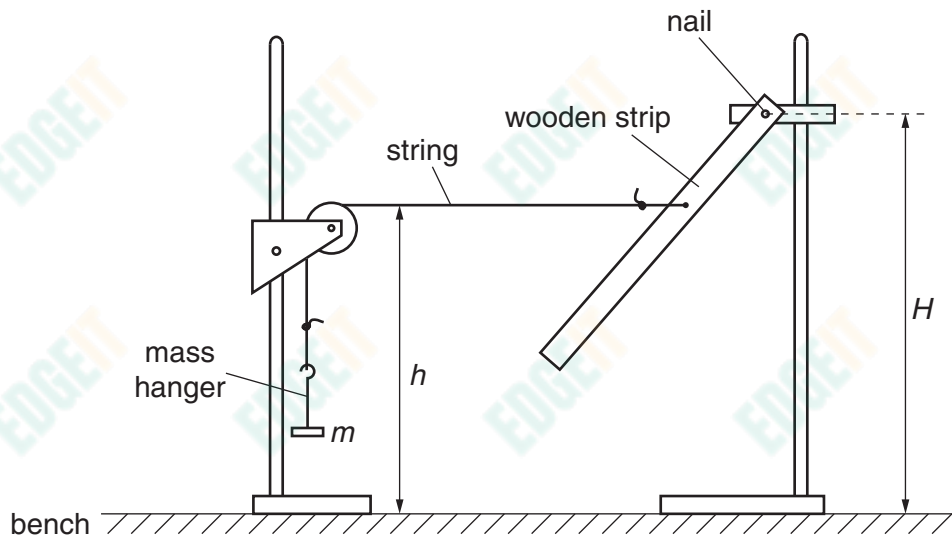

Fig. 1.1
- (a)** Thread the string over the pulley and suspend the mass hanger from the end loop of the string, as shown in Fig. 1.1.